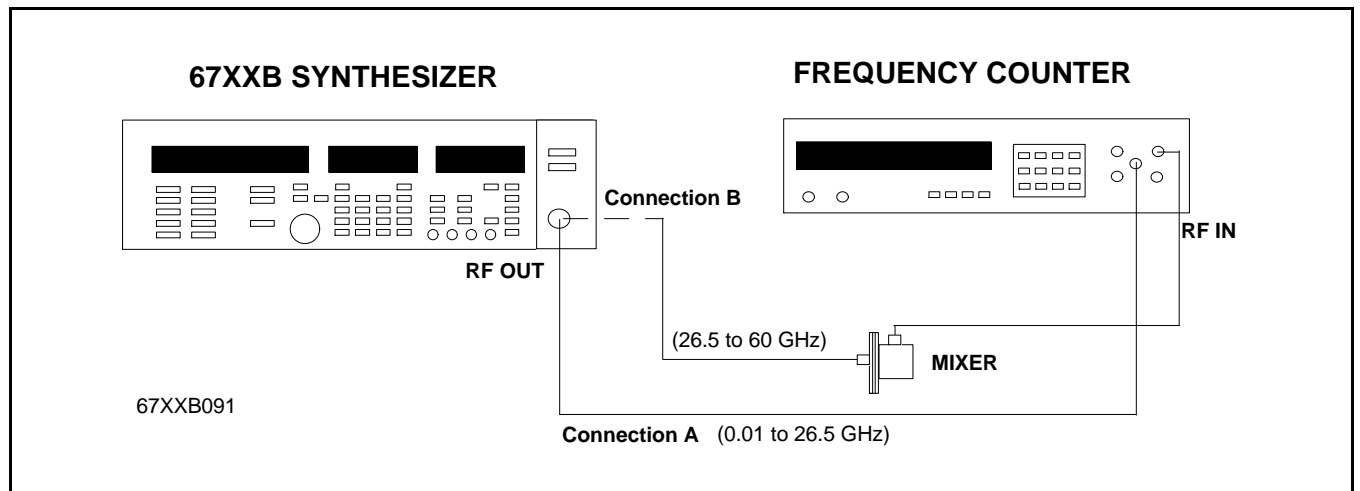

Figure 3-9. Test Equipment Setup for YIG Oscillator Frequency Calibration
1. Connect the equipment, shown in Figure 3-9, as follows: